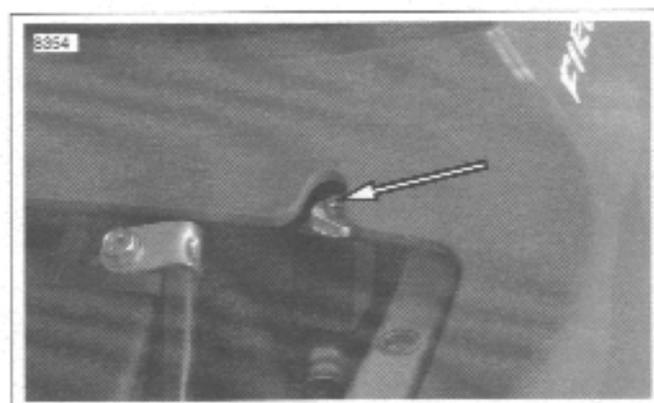

Figure 1-35. Rear Shock Compression Adjustment
1. See Figure 1-35. Using a screwdriver, turn the slotted dial clockwise until it stops. This is the maximum compression damping setting.